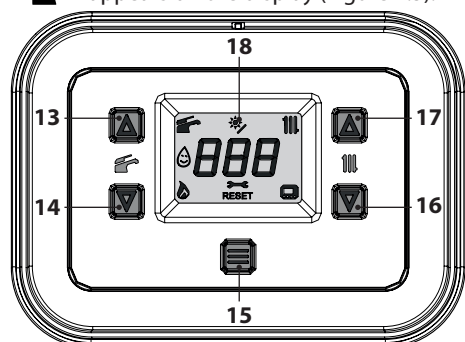

Figure 2.5
- Press button 15 for 1 second until the symbol  appears on the display (Figure 2.5).
The heating delivery temperature of the hot water can be adjusted using the buttons 16 (decrease) and 17 (increase) (Figure 2.5) to between a minimum of approx. 25°C and a maximum of approx. 80°C. The first time one of those buttons is pressed, the "set" value is displayed. The second time it is pressed this can be changed.
If the room temperature is not comfortable, increase or decrease the heating system delivery temperature by  $\pm 15^{\circ}\text{C}$  using the 16 (decrease) and 17 (increase) buttons (Figure 2.5).
The domestic hot water temperature can be adjusted using the 13 (increase) and 14 (decrease) buttons (Figure 2.5) from a minimum of approx.  $35^{\circ}\text{C}$  to a maximum of approx.  $60^{\circ}\text{C}$ . The first time one of these two buttons is pressed, the "set" value is displayed. The second time it is pressed, the value can be changed.